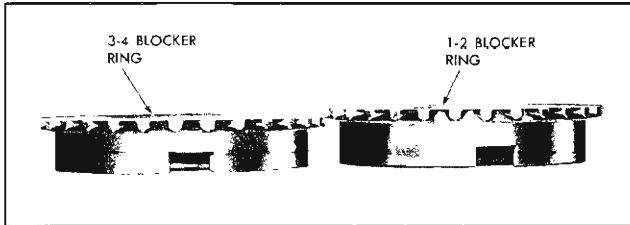

Fig. 7B-28 Blocker Rings
3. Press assembled rear bearing retainer and rear bearing onto mainshaft using J-6133 (Fig. 7B-29) and secure with selective fit snap ring. With the proper snap ring installed (three thicknesses available), maximum end play between rear face of rear bearing and snap ring will be .005".